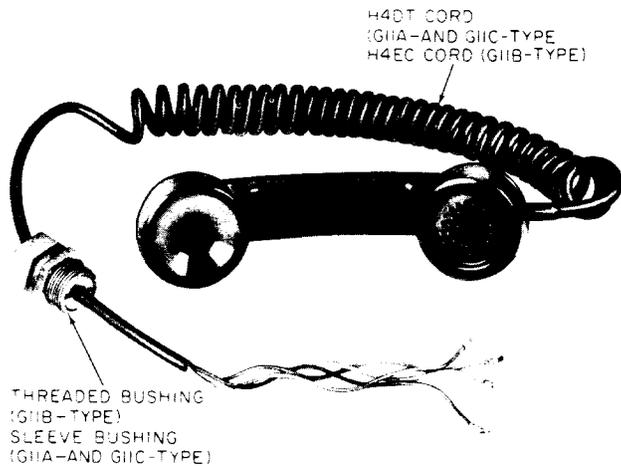

Fig. 9—G11-Type Handsets
2.26 The G11-type handsets (Fig. 9) are intended for use with explosion-proof telephone sets. Designed to provide protection against the probability of explosion resulting from any spark or flames originating within the handset under extreme conditions of operation.